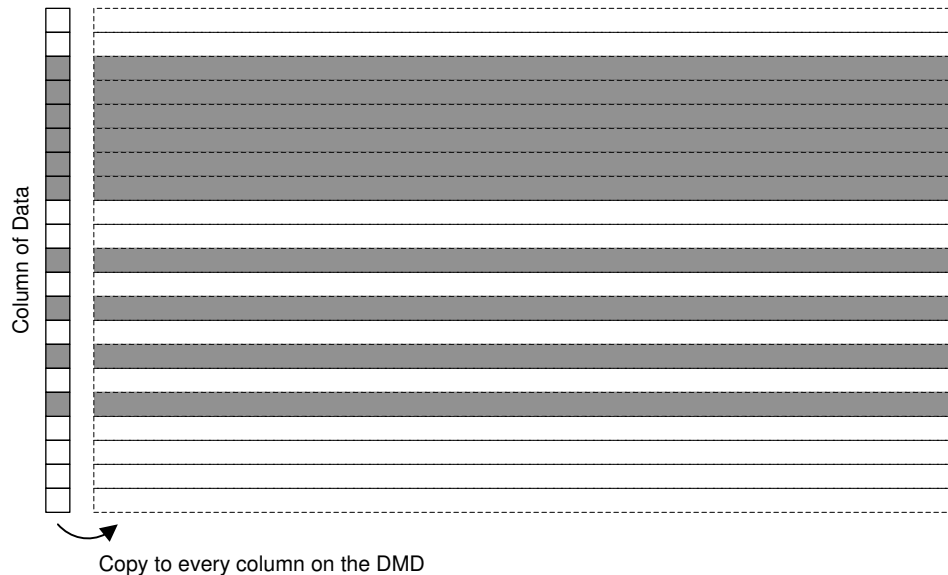
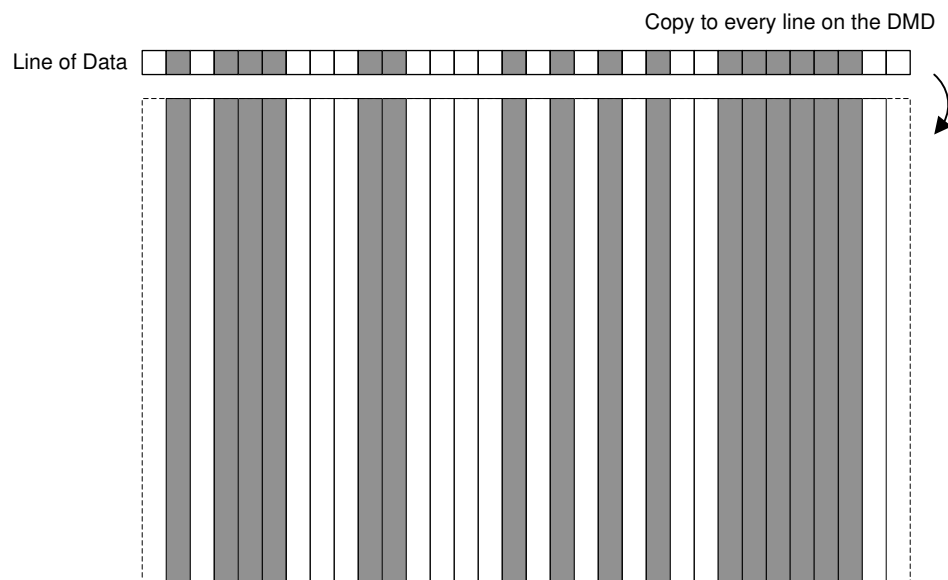

Figure 7-12. Column Replication
Figure 7-13. Row Replication
- Internal pattern mode only supports 1D patterns i.e the pattern data is same across the entire row or column of the DMD (Figure 7-12 and Figure 7-13).